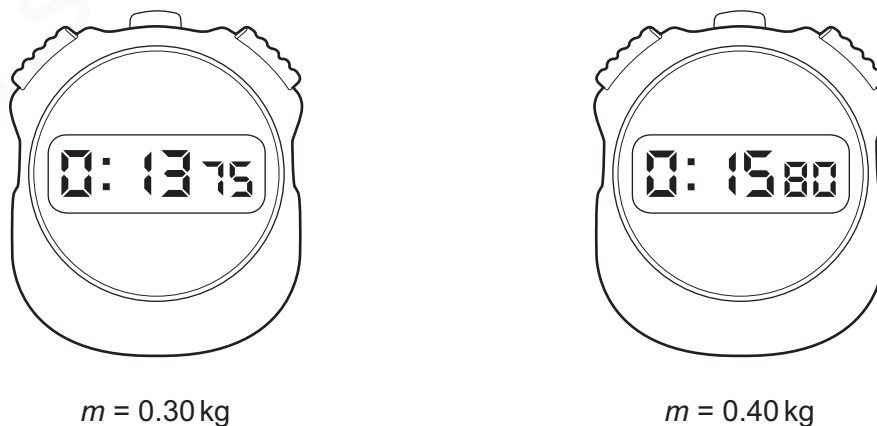

Fig. 2.2
- (a) Fig. 2.2 shows the stopwatches for the time taken for 20 oscillations when $m = 0.30$ kg and 0.40 kg.